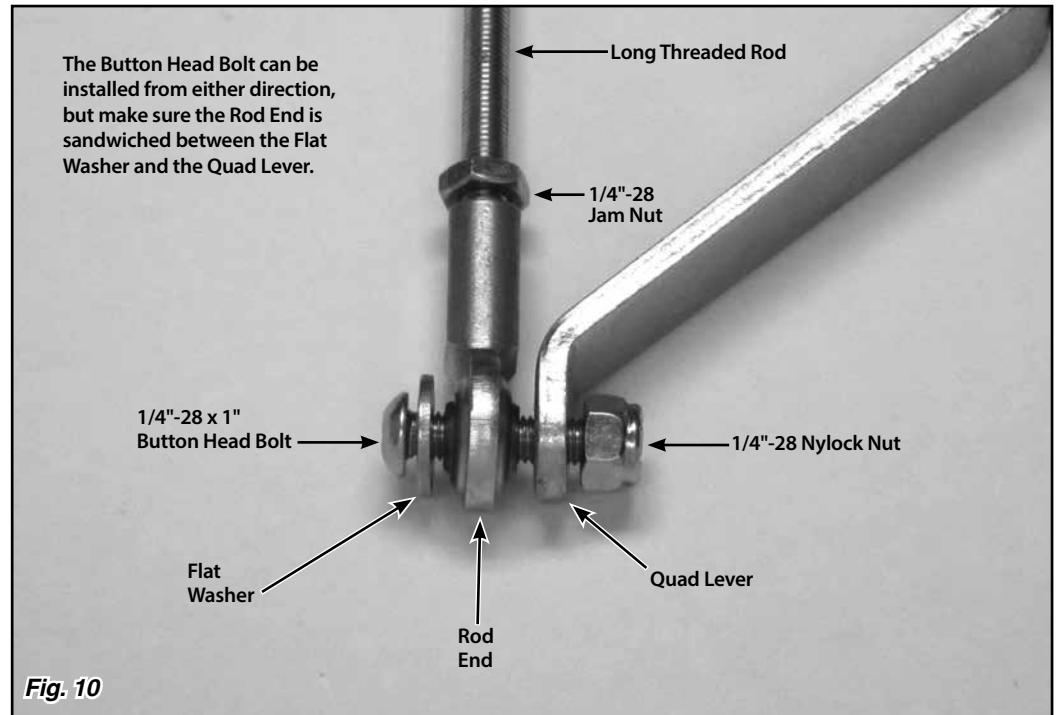

Fig. 10
Step 12: Verify that both 1/4"-28 jam nuts are on the long threaded rod. Thread one end of the long threaded rod into the rod end on the linkage arm, and install a rod end onto the opposite end of the long threaded rod. Attach that rod end to the **outside** of the quad lever using the 1/4"-28 x 1" button head bolt, flat washers, and nylock nuts as shown in **Fig. 10**. The 1/4"-28 x 1" button head bolt can be installed from either direction, but make sure the rod end is sandwiched between the flat washer and the quad lever.